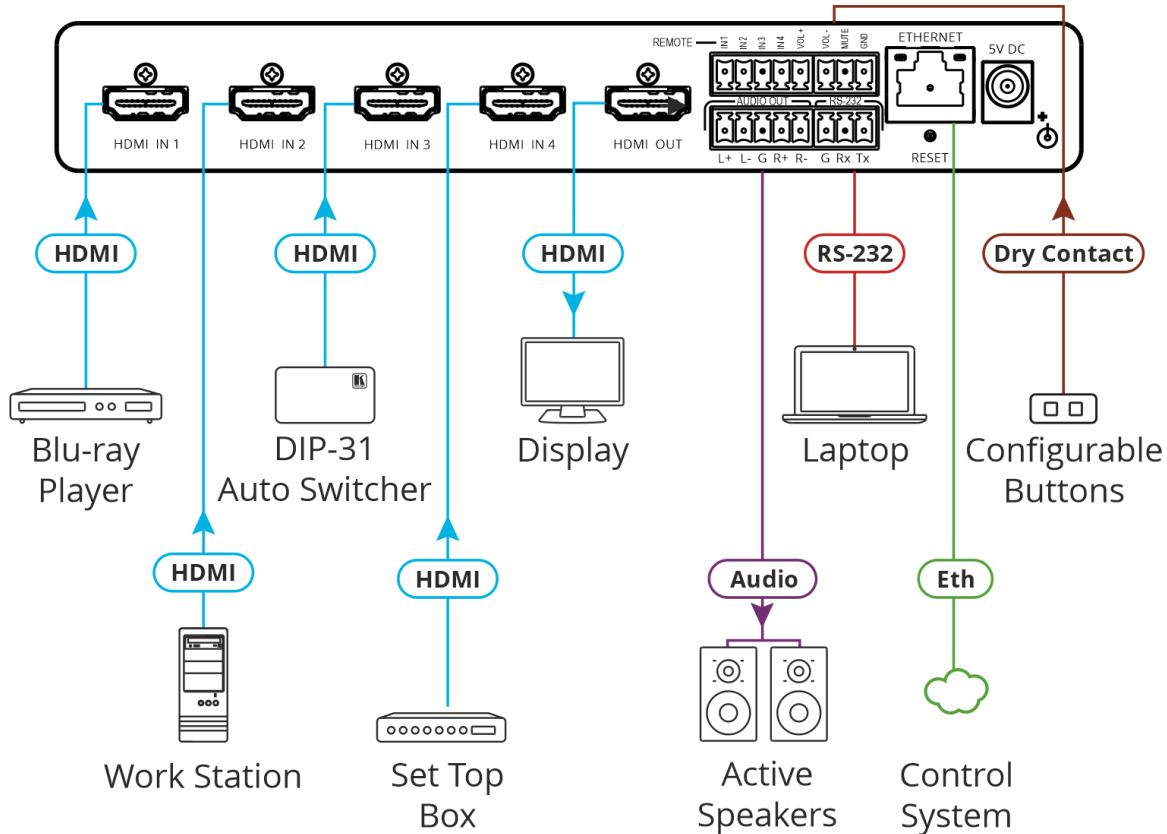

Figure 5: Connecting to the VS-411XS Rear Panel
To connect VS-411XS as illustrated in the example in Figure 5:
1. Connect an HDMI source to the HDMI IN connectors (7), for example, Connect:
2. Connect HDMI OUT (8) to an HDMI acceptor (for example, a display).
4. Connect REMOTE dry-contact terminal block connectors (10) to configurable buttons to select an input (see Using Contact Closure Remote Control Pins on page 16) or activate a custom Maestro trigger (see Configuring Device Control and Automation on page 41).
5. Connect the RS-232 3-pin terminal block connector **⑯** to the RS-232 port on a controller (for example, a laptop) to control the **VS-411XS**.
6. Connect the ETHERNET RJ-45 port **⑪** to the LAN.
7. Connect the 5V power adapter to **VS-411XS** and to the mains electricity (not shown in Figure 5).